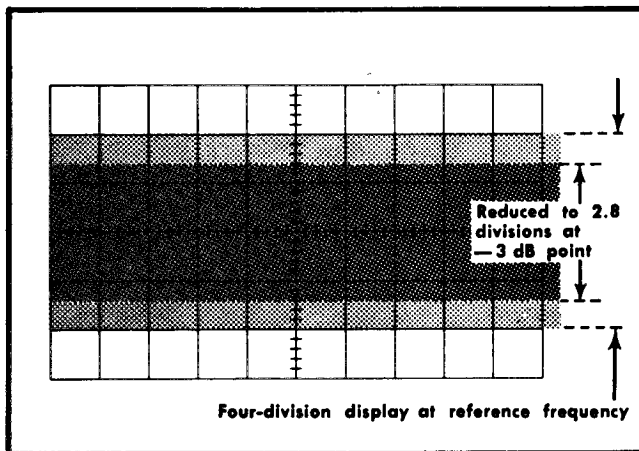

Fig. 6-24. Typical CRT display when checking vertical bandwidth (simulated waveform).
- d. Without changing the output amplitude, increase the output frequency of the generator until the deflection is reduced to 2.8 divisions (-3 dB point; see Fig. 6-24).
h. Without changing the output amplitude, increase the output frequency of the generator until the deflection is reduced to 2.8 divisions (-3 dB point; see Fig. 6-24).
l. Without changing the output amplitude, increase the output frequency of the generator until the deflection is reduced to 2.8 divisions (-3 dB point; see Fig. 6-24).
q. Without changing the output amplitude, increase the output frequency of the generator until the deflection is reduced to 2.8 divisions (-3 dB point; see Fig. 6-24).
u. Without changing the output amplitude, increase the output frequency of the generator until the deflection is reduced to 2.8 divisions (-3 dB point; see Fig. 6-24).
y. Without changing the output amplitude, increase the output frequency of the generator until the deflection is reduced to 2.8 divisions (-3 dB point; see Fig. 6-24).
c. Without changing the output amplitude, increase the output frequency of the generator until the deflection is reduced to 2.8 divisions (-3 dB point; see Fig. 6-24).
d. Without changing the output amplitude, increase the output frequency of the generator until the deflection is reduced to 2.8 divisions (-3 dB point; see Fig. 6-24).